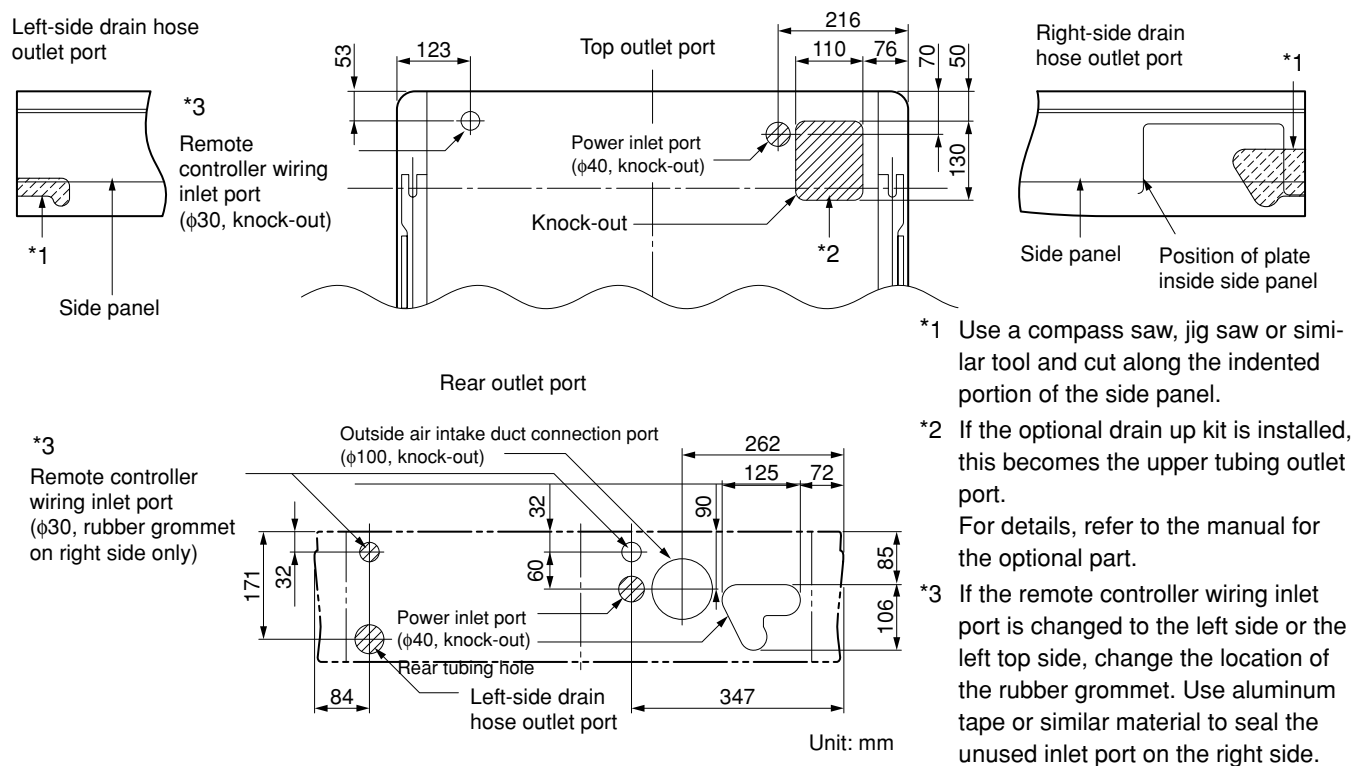

Fig. 3-35
- * When routing the tubing out through the top or right sides, knock out the appropriate parts in the top panel and cut notches in the side panel as shown in Fig. 3-35.